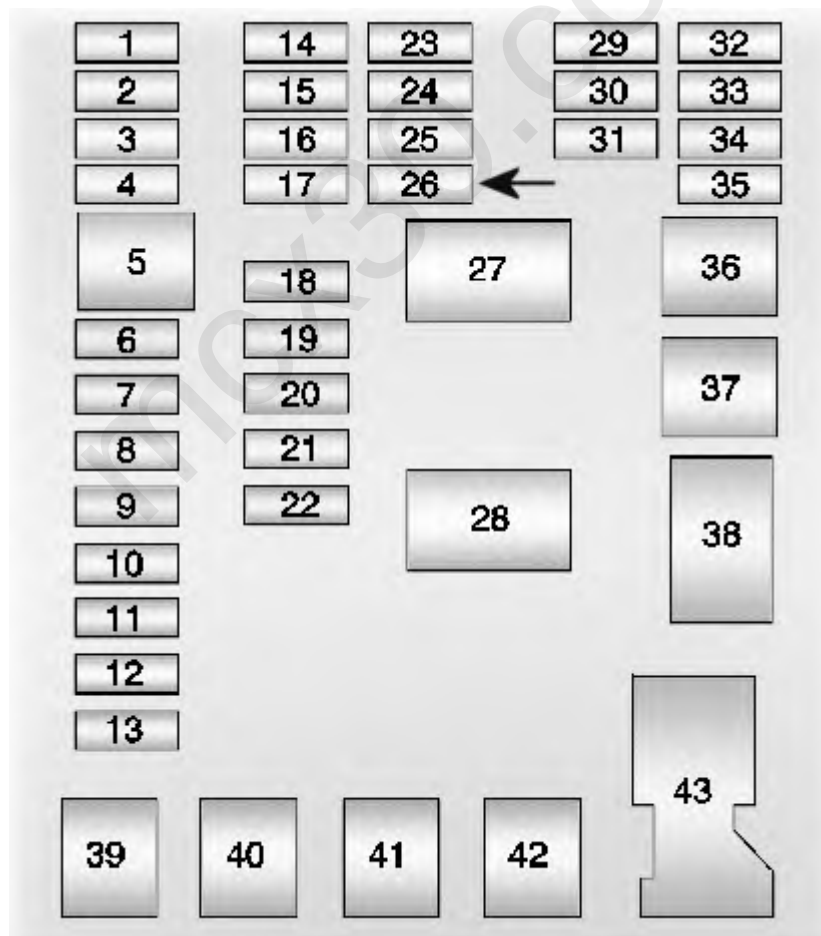

Fig. 6: Instrument Panel Fuses (Sonic)
- **2012-16 Sonic :** Fuse #F26 (F26DA) Under Dash (lower-left of dash - Fig. 6)